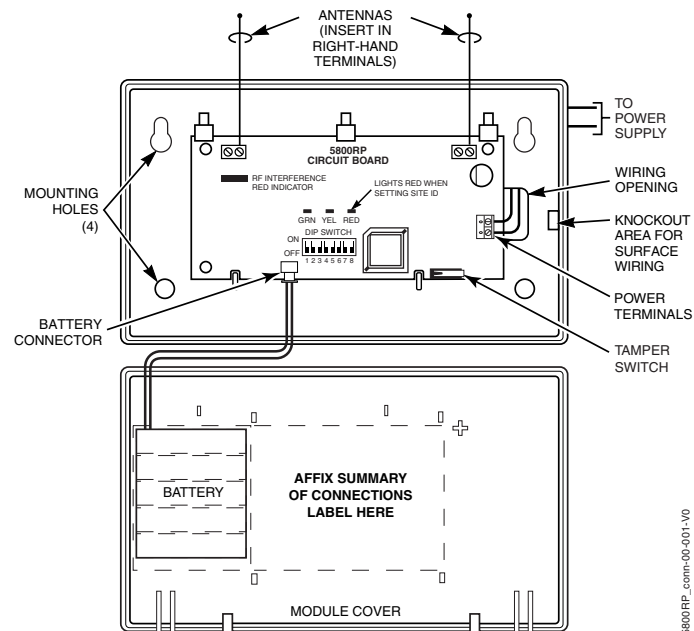

Figure 2.
The 5800RP can be powered from either an AC or DC external power source connected to terminals 1 and 2 (see figure 2).
- Connect the power supply to the 5800RP's terminals. Refer to Figure 2. These terminals are not polarized. The leads from DC supplies may be connected to either terminal.
- Begin battery installation by attaching an adhesive backed hook and loop fastener strip (supplied) to the Summary of Connections label in the cover. Place the strip within the large box drawing labeled 'PLACE BATTERY HERE'. Refer to Figure 2.
- Attach another adhesive backed hook and loop fastener strip to the battery. Attach the battery to the cover by firmly pressing the two hook and loop fastener strips together. Make sure the battery is positioned as shown in Figure 2.
- Plug the battery cable into the battery connector on the 5800RP PCB. Refer to Figure 2.
3. Temporarily disconnect the power supply and battery from the 5800RP. Refer to Figure 2.